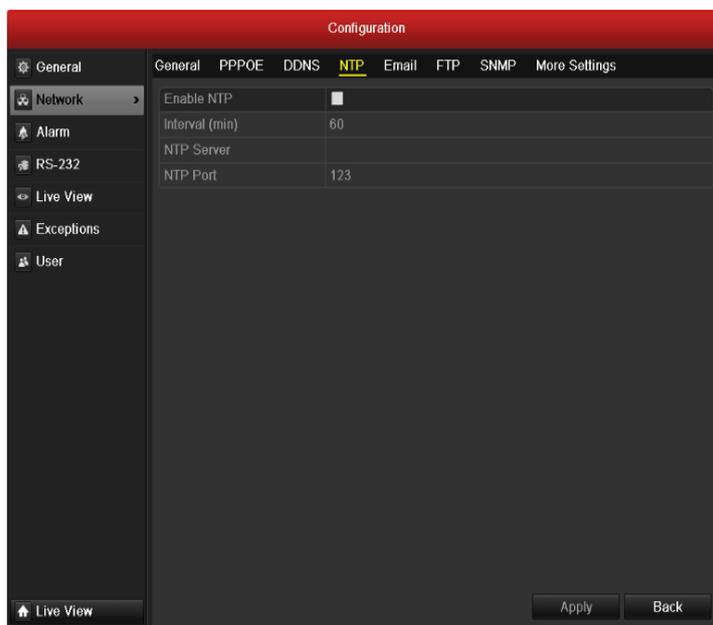

Figure 9.9 NTP Settings Interface
2. Select the **NTP** tab to enter the NTP Settings interface, as shown in Figure 9.9.